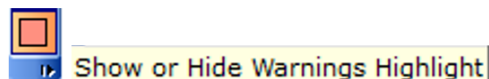

Figure 38: Show or Hide Warnings Highlight Button.
**Note:** Make sure that the **RED** Show or Hide Warnings Highlight button is selected in the *Flowsheet Toolbar* (Figure 38):